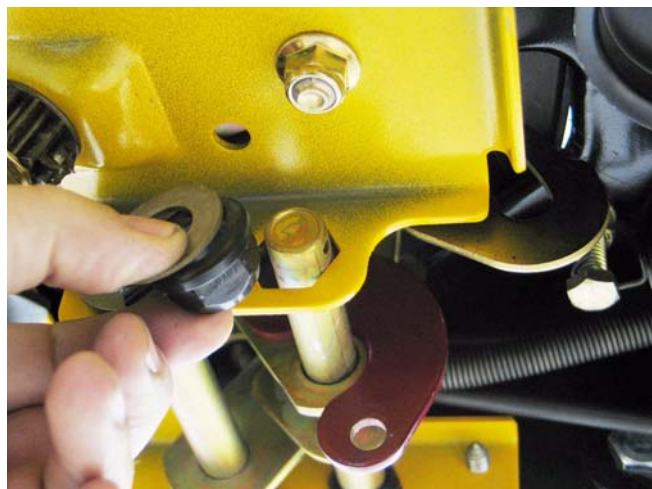

Figure 31.17
31.17. Remove the washer and inboard bushing from the pedal shaft. See Figure 31.17.